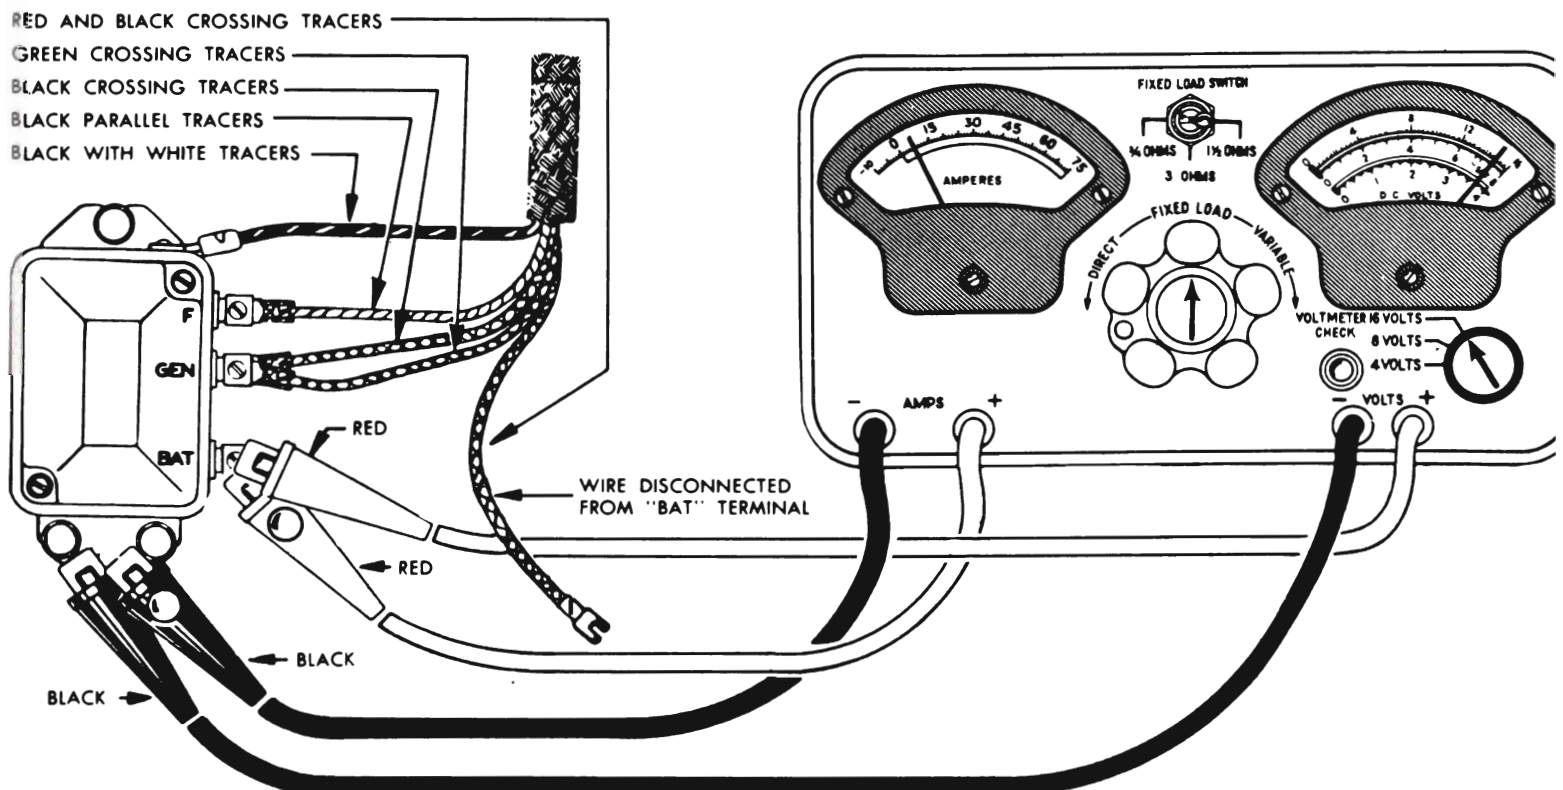

Figure 10-15—Voltage and Current Regulator Test Connections—Sun Tester
15. Change the red voltmeter test clip from the "GEN" to the "BAT" terminal of regulator, where red ammeter test clip is already connected. Disconnect black ammeter test clip from car battery wire and connect it to good ground on regulator base plate. See figure 10-15. **CAUTION:** *Do not allow disconnected car battery wire to touch metal.*